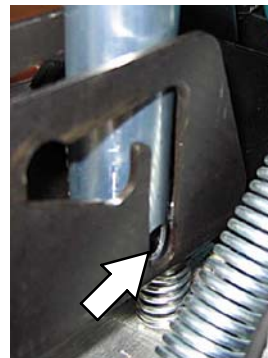

FIG. 9a
- 4d. Align the tube holes with the mounting bracket (Fig. 9a). Reinstall the lower clevis pin, cotter pin, washers, scrub head strap handle and spring (Fig. 9b).